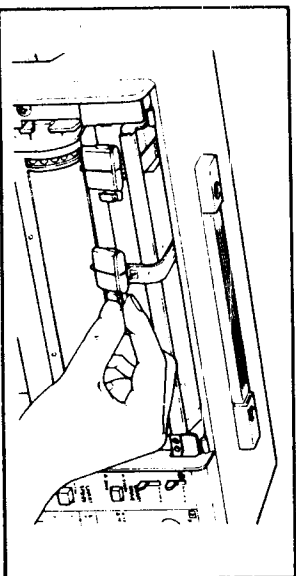

Figure 3-13.
3. Remove the pen cartridge from the pen holder, in the reverse order: press the right edge of the cartridge toward you to pop it out of the clip. (See Figure 3-13).